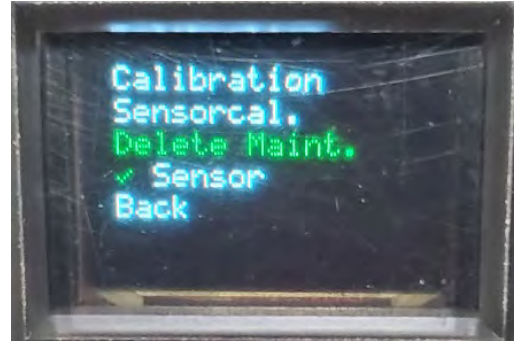

Figure 3.3.10-1: Maintenance Menu
1. Go to: Main Menu > Extended > Maintenance > Delete Maint. (Figure 3.3.10-1).